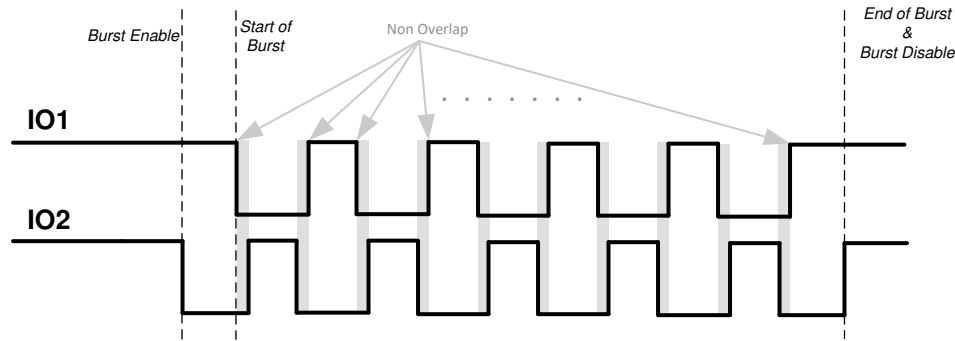

图 7-3. IO_MODE 2 Description
- **IO_MODE = 2:** In this mode both IO1 and IO2 are used to control OUTA and OUTB. The burst enable is triggered when either IO1 or IO2 transitions from high to low. Start of burst (OUTA and OUTB changing state) happens only at the next falling edge of IO1. 图 7-3 shows the case where a high-to-low transition on IO2 is used to enable the burst. A burst is emulated when IO1 and IO2 are toggled in a non-overlapping sequence. After the start of burst, the state of OUTA and OUTB pins are determined by IO1 and IO2 pins. During a burst, if there is a condition where both IO1 and IO2 are high for more than half period of the internal clock f_{INT_CLK} (caused by differential delays due to PCB parasitics or MCU code), an end of burst and burst mode disable will be triggered. Any falling edge just after this condition will be ignored to toggle OUTA and OUTB as it would be considered as a new burst enable signal. A systematic condition of overlap can cause a continuous end of burst trigger such that OUTA and OUTB do not toggle even though IO1 and IO2 are toggling. TI recommends no overlap or minimum non-overlap between the IO1 and IO2 signals when measured at the pins. BURST_PULSE has no effect in this mode.